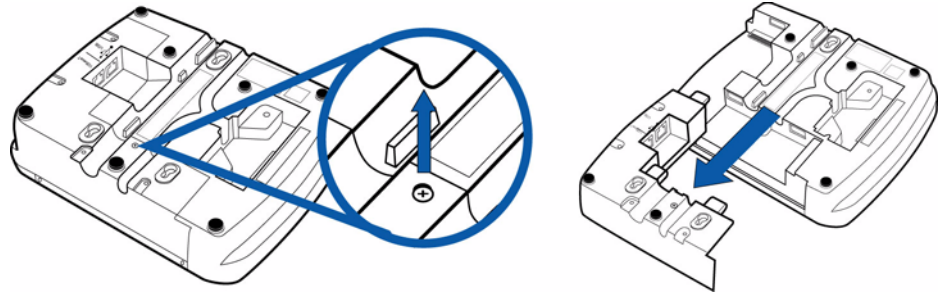

Figure 17 Removing the Old I/O Module
- 1 Loosen the module retaining screw on the bottom of the Omni 7000MPD (Figure 17) until the old module can slide out.